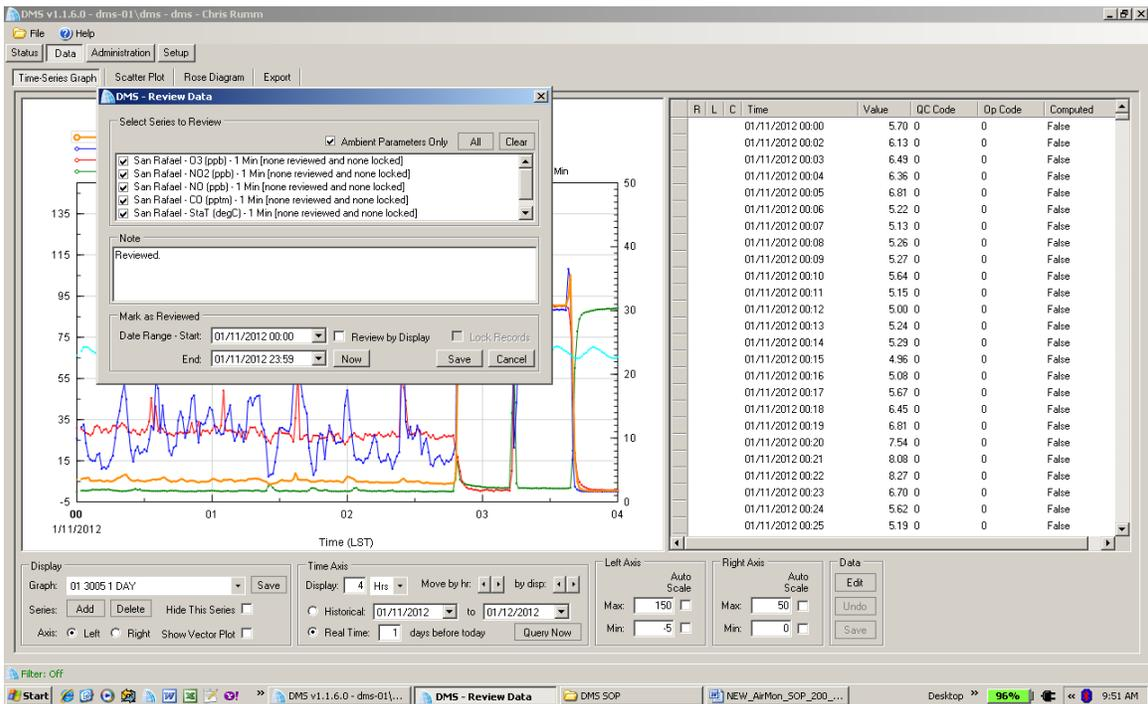

Figure 5: DMS Data Review 'Save' screen
- b. Ensure the '**Ambient Parameters Only**' box at the top of the dialog box is checked. Ensure that all appropriate parameters are checked. Select '**All**' if needed. (**NOTE:** see Figure 5: DMS Data Review 'Save' screen)